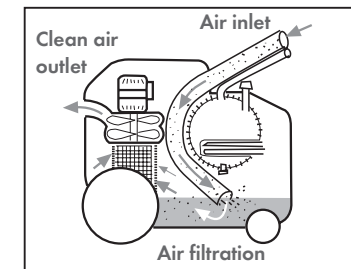

Fig. 4
By filling the recovery tank (G) with 2.5 litres of clean water, you will ensure that the air is filtered and impurities (dust, germs, etc.) are trapped in the tank (G). (Fig. 4). When using the appliance, always make sure not to exceed the maximum level in order to prevent water from sprinkling out from the muffler.